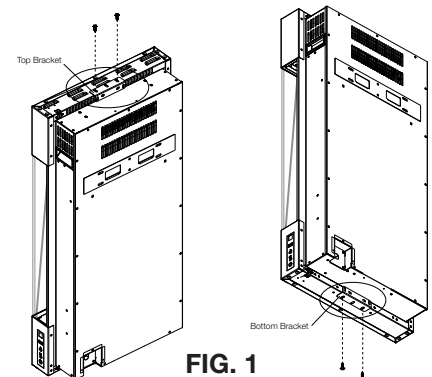

FIG. 1
3. Remove the top and bottom brackets (FIG. 1).
5. Re-insert the appliance into the recess, and then secure it to the top and bottom brackets (FIG. 1).